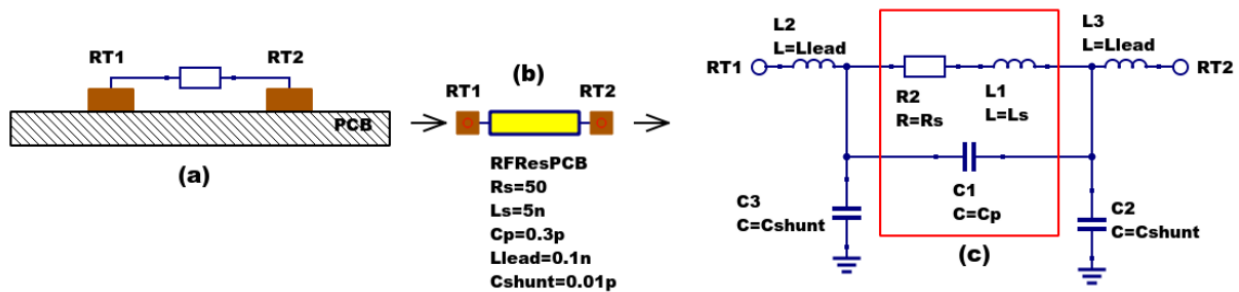

Figure 2 - PCB mounted resistor: (a) axial component mounting, (b) Qucs symbol and (c) equivalent circuit model.
The schematic symbol, I/V equation and parameters of the Qucs linear resistor model are shown in Figure 1. In contrast to this model Figure 2 illustrates the structure of a printed circuit board (PCB) mounted metal film (MF) axial RF resistor (a), its Qucs schematic symbol (b) and its equivalent circuit model (c). A thin film surface mounted (SMD) resistor can also be represented by the model shown in Figure 2 (c).
At signal frequencies where the largest dimension of an axial or SMD resistor is less than approximately 20 times the smallest signal wavelength a resistor can be modelled by a lumped passive circuit consisting of a resistor **Rs** in series with a small inductance **Ls** with the combination shunted by parasitic capacitor **Cp**. In Figure 2 **Rs** is the nominal value of resistor at its parameter extraction temperature **Tnom**, **Ls** represents the inductance associated with **Rs** where the value of **Ls** is largely determined by the trimming method employed during component manufacture to set the value of **Rs** to a specified tolerance. Similarly, capacitor **Cp** models a parasitic capacitance associated with **Rs** where the value of **Cp** is a function of the physical size of **Rs**. At RF frequencies it is important, for accurate operation, to add lead parasitic elements to the intrinsic equivalent circuit model shown within the red box draw in Figure 2. In Figure 2 **Llead** and **Cshunt** represent resistor series lead inductance and shunt capacitance to ground respectively.
A typical set of model parameters for a 51 Ω 5 % MF axial resistor are (1) **Ls = 8nH**, **Cp = 1pF**, **Llead = 1nH** and **Cshunt = 0.1pF**. Illustrated in Figure 3 is a basic S parameter test bench circuit for measuring the S parameters of an RF resistor over a frequency range 1 MHz to 1.3 GHz. This example also demonstrates how the real and imaginary parts of a resistor model impedance can be extracted from S parameter simulation data. The graphs in Figure 3 clearly demonstrate that the impedance of the typical MF RF resistor described in previous text and modelled by the equivalent circuit shown in Figure 2 is a strong function of frequency at higher frequencies in the band 1 MHz to 1.3 GHz.
Figure 8 - Qucs device model parameter extraction system applied to a nominal 47 Ω resistor represented by the subcircuit model illustrated in Figure 2 (c). Fixed model parameter values: $R_s = R_m = 47.3 \Omega$, $C_{Shunt} = 0.08 \text{ pF}$; Optimised values: $L_s = L = 10.43 \text{ nH}$, $L_{lead} = LL = 1.47 \text{ nH}$, $C_p = C = 0.69 \text{ pF}$. To reduce simulation time the ASCO cost variance was set to 1e-3. The ASCO method was set to DE/best/1/exp.
Figure 13 - Qucs device model parameter extraction system applied to a nominal 100 Ω SMD resistor represented by the subcircuit model illustrated in Figure 2 (c).
Listed below is an example Verilog-A code model for the RF resistor model introduced in Figure 2 (c). Due to the limitations of the Verilog-A language subset provided by version 2.3.4 of the "Analogue Device Model Synthesizer" (ADMS)⁴ inductors **Ls** and **Llead** are modelled by gyrators and capacitors with values identical to **Ls** or **Llead**.